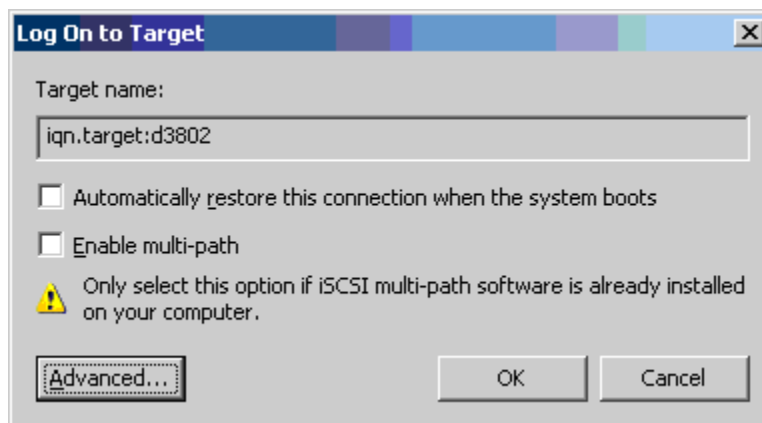

Figure 10-14. Log On to Target
10. On the Log On To Target dialog box (Figure 10-14), click **Advanced**.